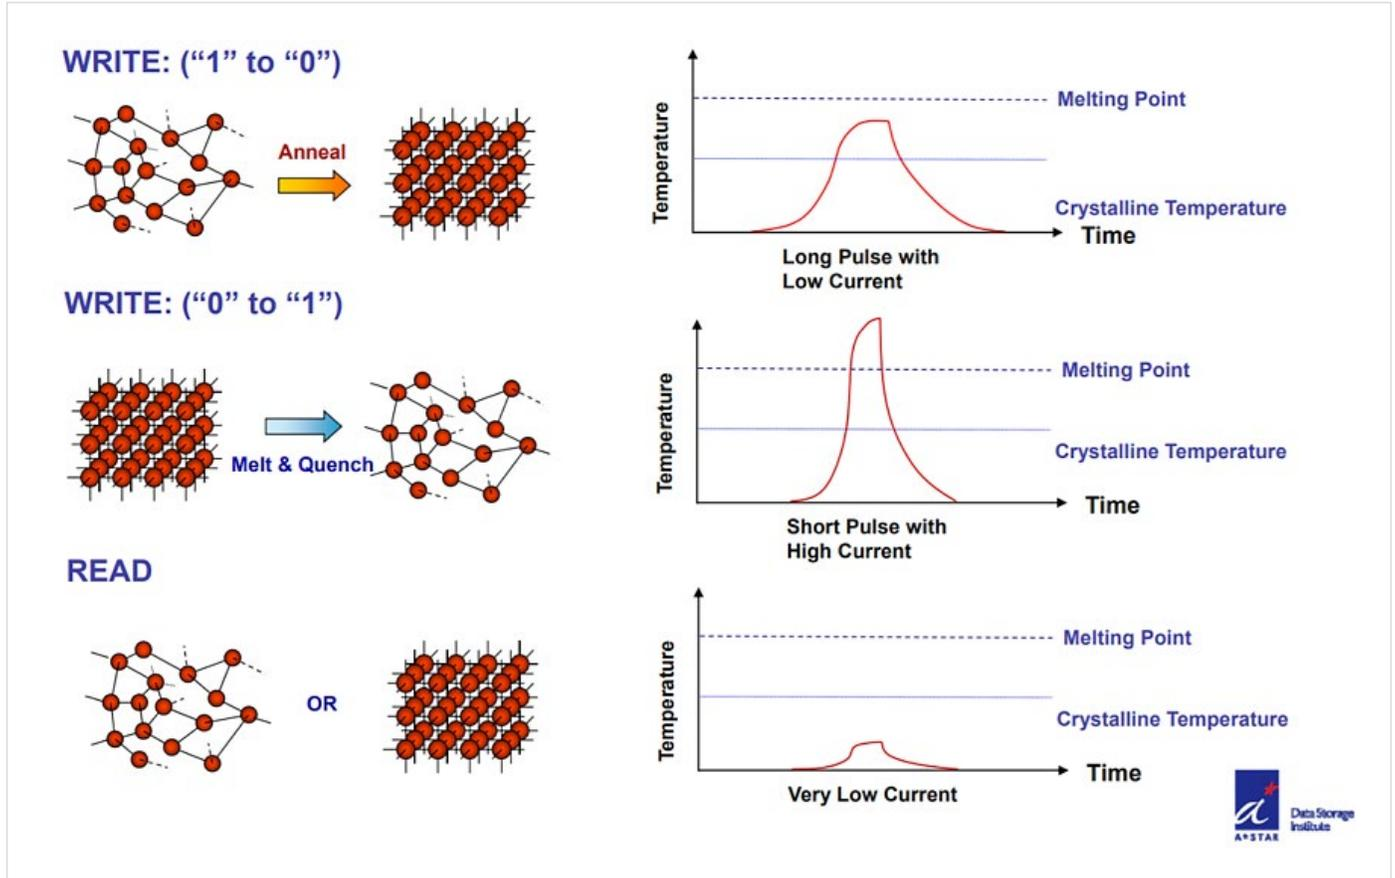

Figure 9: PCRAM testing.
Other memory types, like the PCRAM, RRAM, MRAM, and STT-RAM, are based on a two-terminal memory cell. **Figure 9** shows an example of testing done on PCRAM and that could also be applied to other two-terminal memory cells.
**Figure 9** is a slide from a published work on “Phase Change Materials and PCRAM” by the Data Storage Institute. It shows the different pulse widths for read and write: a short pulse for “write” and long pulses for “read.”